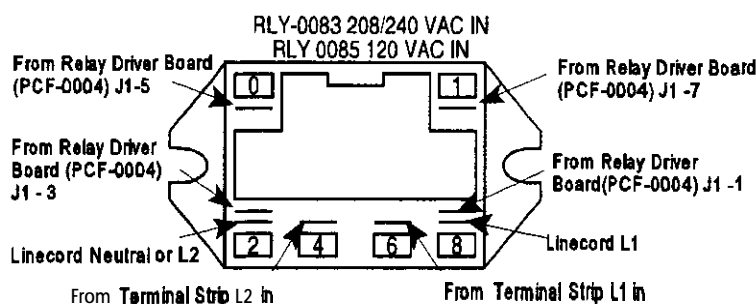

Figure 11
- 302-2. Label the wires connected to the relay with the terminal numbers they are connected to. (See Figure 11.) Disconnect the wires from the relay.
- 302-4. Install the new relay and reconnect the wires as shown in Figure 11. Remove the labels you put on the wires.